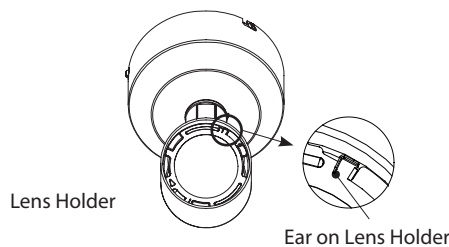

Fig 6
Step 2: Rotate lens holder with ears anticlockwise to remove it. (See Fig 6)